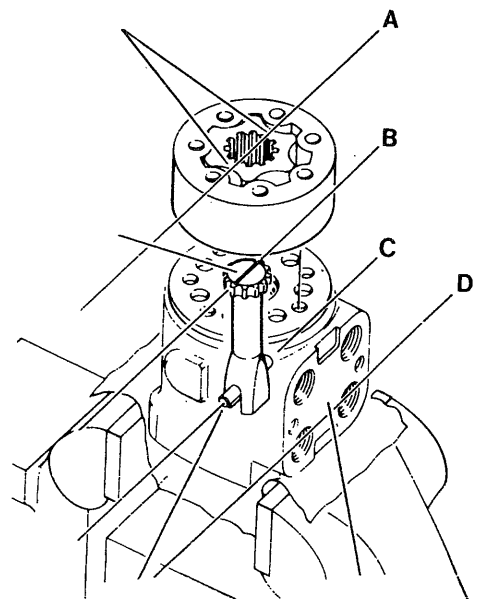

Fig. 149
- (23) Assemble rotor set (24) to housing with O-ring side toward housing aligning bottom lands of star (line A in Fig. 149) with top lands of drive (23) (line B in Fig. 149). Carefully check that liners A, B, C, and D are all parallel each other (Fig. 149). With star meshing with drive (23), align bolt holes in rotor set (24) with holes in spacer plate (22).